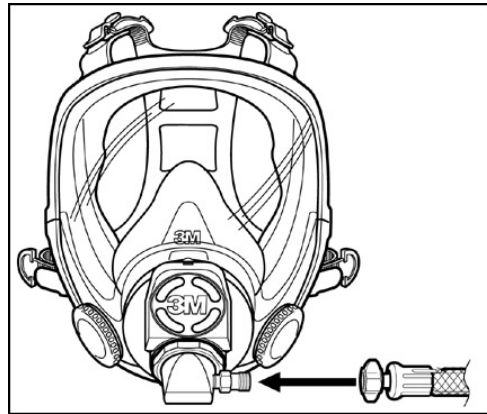

Fig. 8
2. Connect 3M™ Breathing Tube W-3188 to adapter. (Fig. 8)
3. Connect 3M™ Breathing Tube W-3188 to air regulator valve. (Fig. 8)